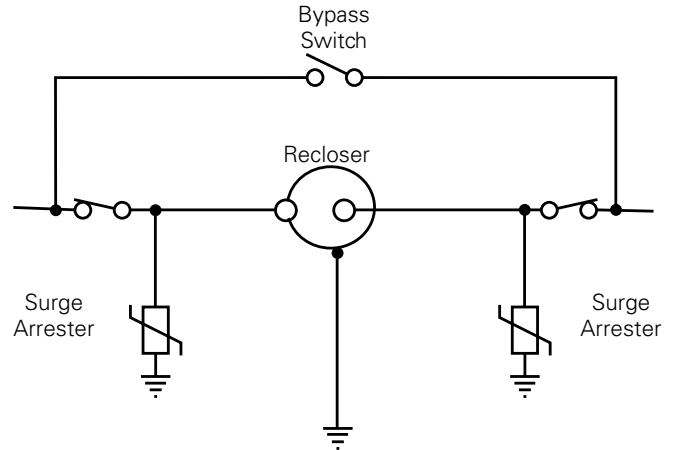

Figure 15. Connection diagram showing complete surge protection with bypass and disconnect switches
- Make the high-voltage line connections. See Figure 15.